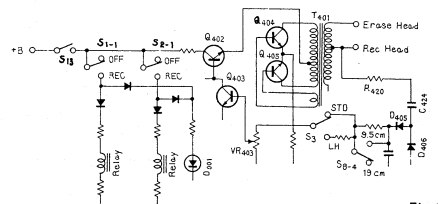

Fig. 3
7. When operating the REC switches voltage +B is fed to the oscillator circuit and the current flows simultaneously to the light-emitting diode (D001) through the relays and recording is indicated (Fig. 3).
#### 3.3 OSCILLATOR CIRCUIT (Fig. 3)